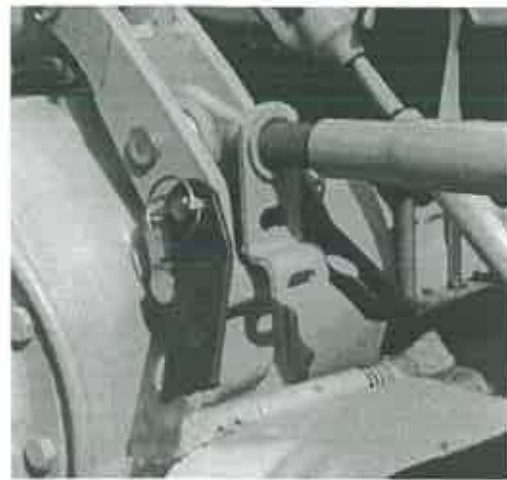

figure 18
4. Fasten keyhole plates to the tractor toplinek using pins from the tractor (figure 18).